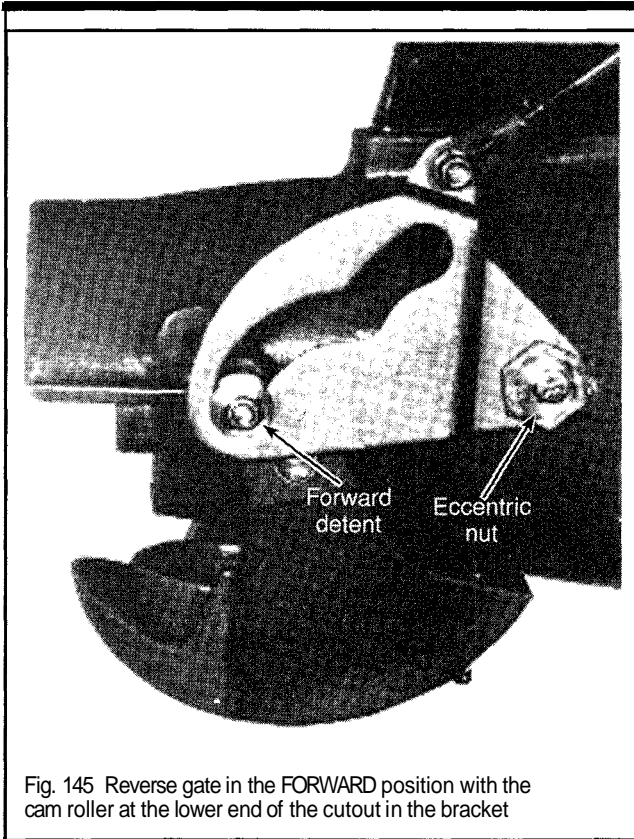

Fig. 145 Reverse gate in the FORWARD position with the cam roller at the lower end of the cutout in the bracket
- ◆ See Figure 145, 146 and 147
◆ See Figures 145, 146, 147, 148 and 149
◆ See Figures 145, 146 and 147